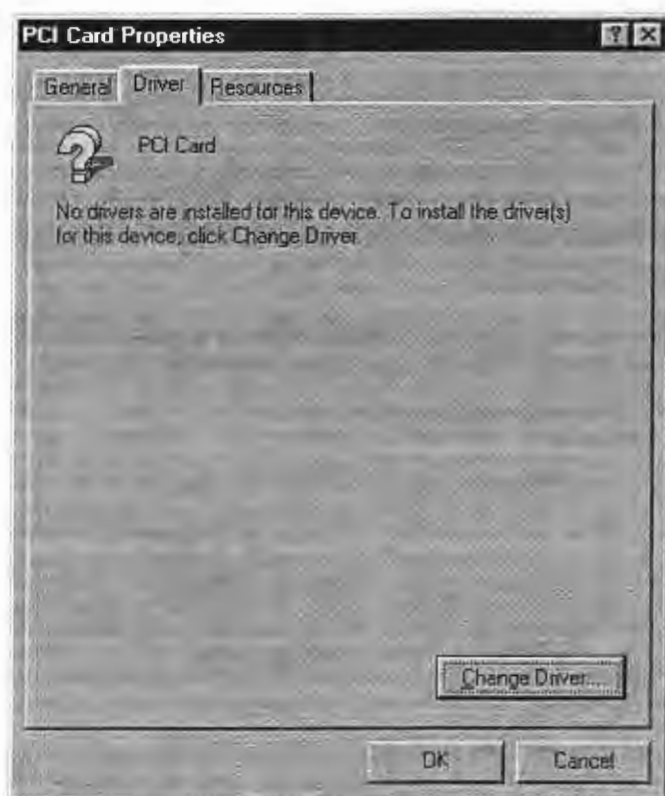

Figure 18: PCI Board Properties
3. Select the [Driver] tab in the PCI Card Properties dialog box and click <Change Driver ...> (see Figure 18).